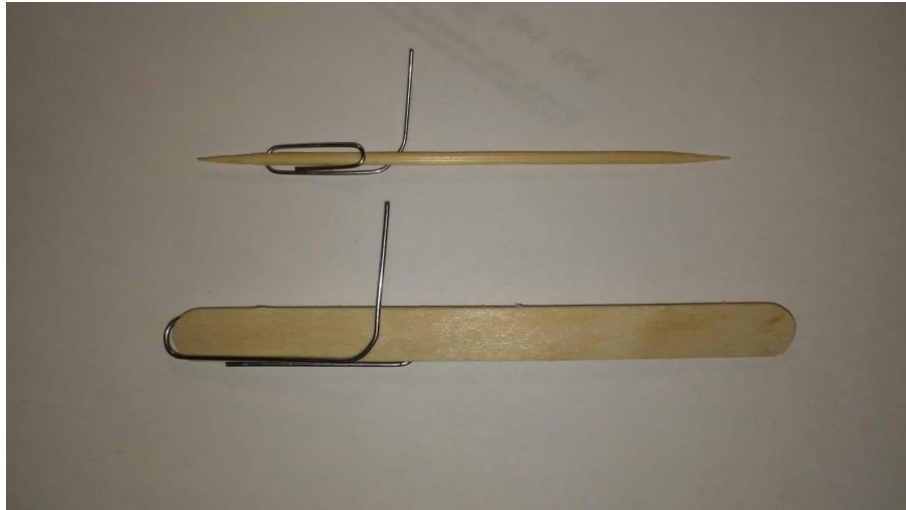

Figure 1a. Basic launch hook assemblies.
1. Opening the paper clip to an approximately right angle, slide the unperturbed wire over the toothpick or popsicle stick as shown in Figure 1a.